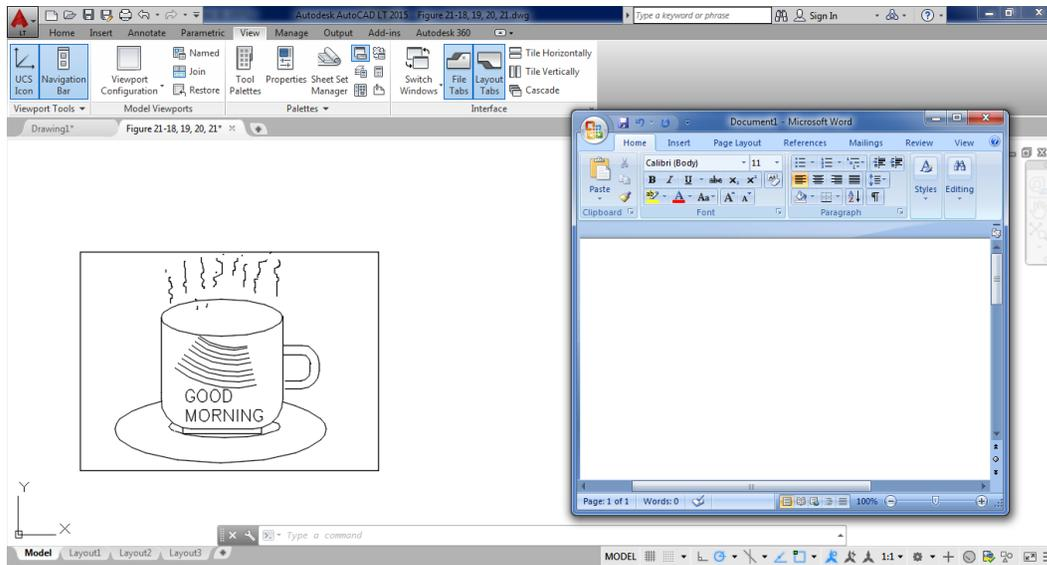

Figure 20-18 AutoCAD LT graphics screen with the MS Word window
3. It is preferable to arrange both the container and server windows so that both are visible, as shown in Figure 20-18.